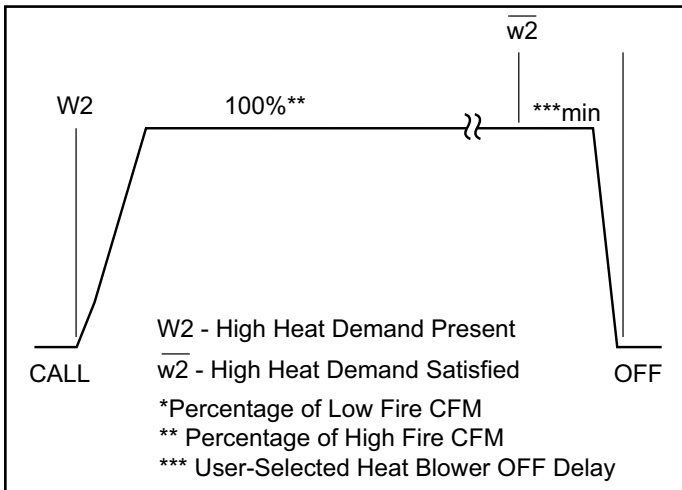

Figure 55. Indoor Blower Operation - High Heat (W2) Call
3. When there is a cooling demand, the indoor blower will run on the cooling speed designated by the positions of DIP switches (A, B, C, D) of the COOL jumper plug. See Figure 55.